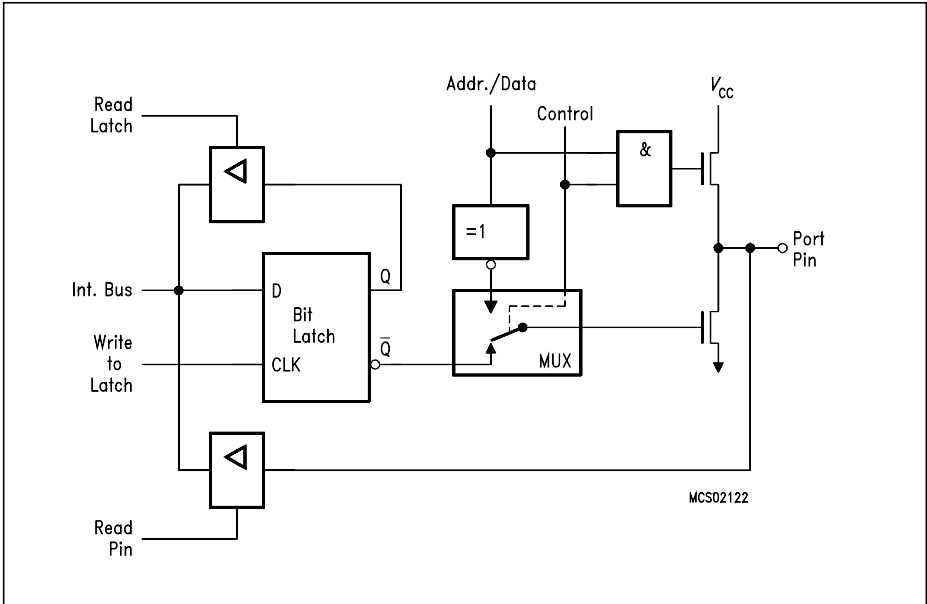
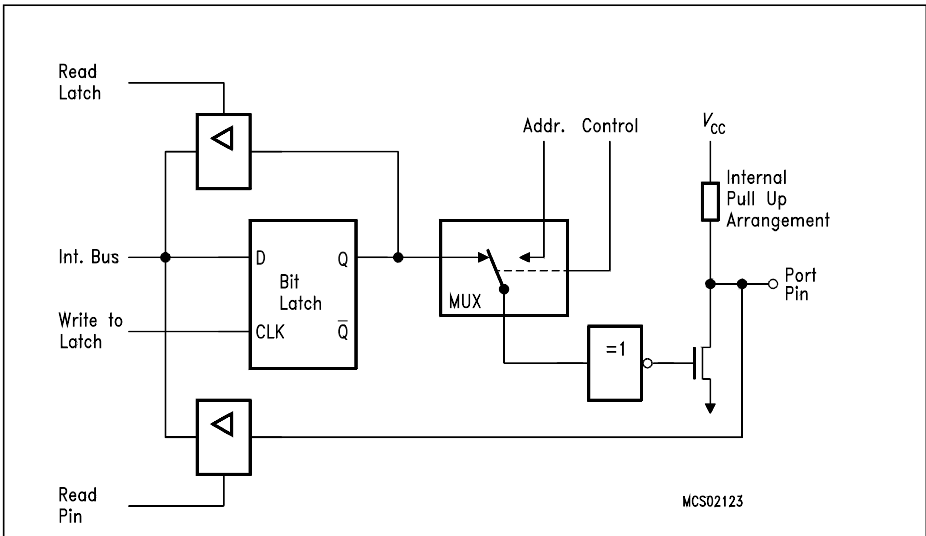

Figure 6-4a
Figure 6-4b
Port 0, in contrast to ports 1, 2 and 3, is considered as "true" bidirectional, because the port 0 pins float when configured as inputs. Thus, this port differs in not having internal pullups. The pullup FET in the P0 output driver (**see figure 6-4a**) is used only when the port is emitting 1 s during the external memory accesses. Otherwise, the pullup is always off. Consequently, P0 lines that are used as output port lines are open drain lines. Writing a "1" to the port latch leaves both output FETs off and the pin floats. In that condition it can be used as high-impedance input. If port 0 is configured as general I/O port and has to emit logic high-level (1), external pullups are required.
As shown in **figure 6-4a** and below in **figure 6-4b**, the output drivers of ports 0 and 2 can be switched to an internal address or address/data bus for use in external memory accesses. In this application they cannot be used as general purpose I/O, even if not all address lines are used externally. The switching is done by an internal control signal dependent on the input level at the $\bar{E}A$ pin and/or the contents of the program counter. If the ports are configured as an address/data bus, the port latches are disconnected from the driver circuit. During this time, the P0/P2 SFR remains unchanged. Being an address/data bus, port 0 uses a pullup FET as shown in **figure 6-4a**. When a 16-bit address is used, port 2 uses the additional strong pullups p1 to emit 1's for the entire external memory cycle instead of the weak ones (p2 and p3) used during normal port activity.